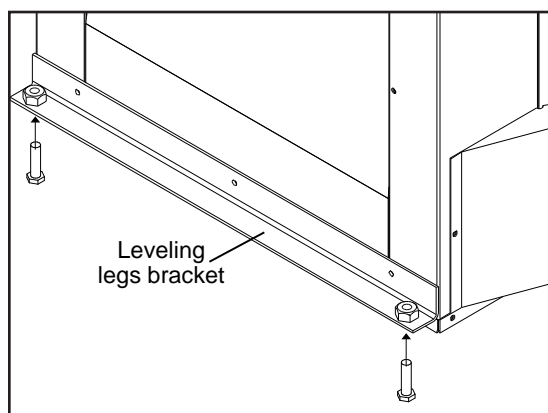

Figure 21: Installation of Leveling Legs.
6. Install the leveling legs. Thread the two (2) 5" (13 cm) bolts and locknut up into the captive nuts at each end of the leveling leg bracket (refer to Figure 21).